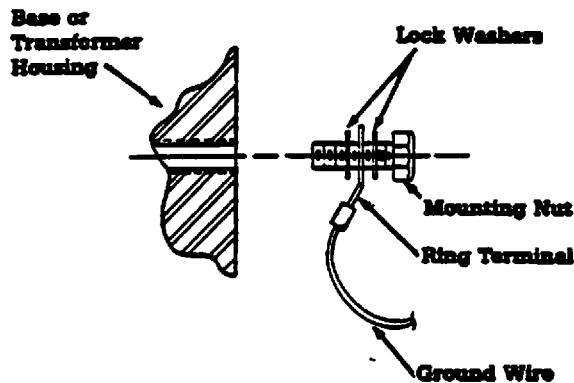

Figure 11. Ground Configuration
16. Use one screw, two lock washers and a flat washer to secure the ground wire ring terminal to the chassis ground point as shown in Figure 11.
11. Use one screw, two lock washers and a flat washer to secure the ground wire ring terminal to the chassis ground point as shown in Figure 11.